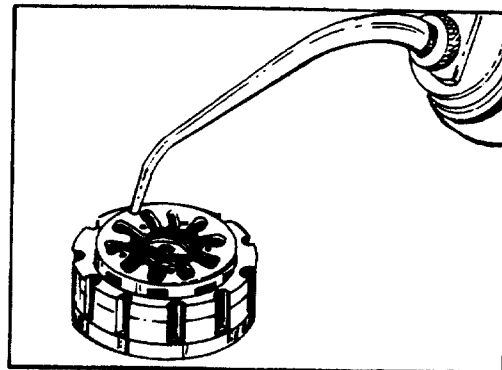

FIGURE 59.
14. Place a few drops of oil into each recess in the commutator (22). See figure 59.